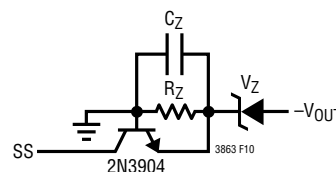

Figure 10
- To protect against the V_{FBN} open condition it is necessary to add an output shutdown clamp. The output shutdown clamp is comprised of a Zener, V_Z , NPN and Zener bias resistor, R_Z , to ground as found in Figure 10. The clamp voltage will be the Zener forward voltage V_Z plus a V_{BE} . The clamp needs to be designed such that the worst-case minimum Zener voltage is less than the maximum operating voltage. The worst-case Zener leakage current times the Zener bias resistor should not exceed 200mV.